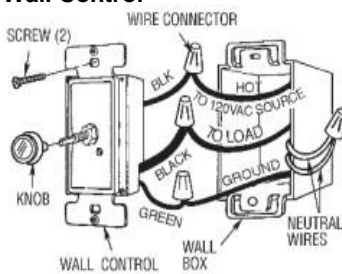

Figure 3
6. Securely connect one BLACK control wire to the (BLACK or RED) load wire from the ceiling fans with a wire Connector (supplied) (Figure 3).
9. Carefully install the wall control into the electrical switch box using the installation screws supplied. Do not install the cover plate. Reinstall the knob to the wall control (Figure3).